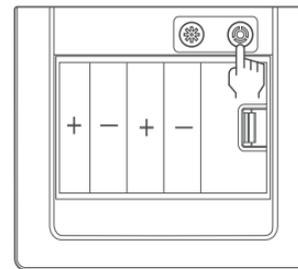

Figure 6
1. As shown in Figure 6, long press the black safe mode button '⊗' for 3 seconds. There will be a voice prompt 'Vibration alert is on', indicating successful operation. Long press it for another 3 seconds can turn the 'Vibration alert' off.